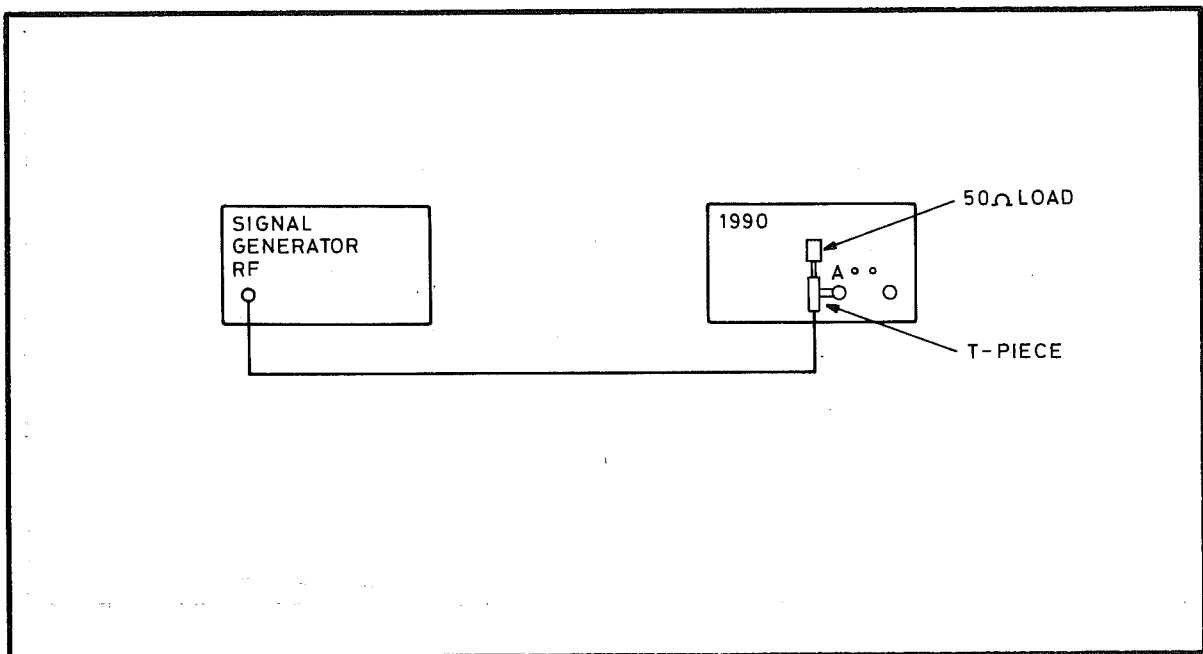

Fig 7.23 Connections for Time Interval PVP
62 (1) Ensure that both trigger level controls are switched to 0 V. Connect the test equipment as shown in Fig 7.23.